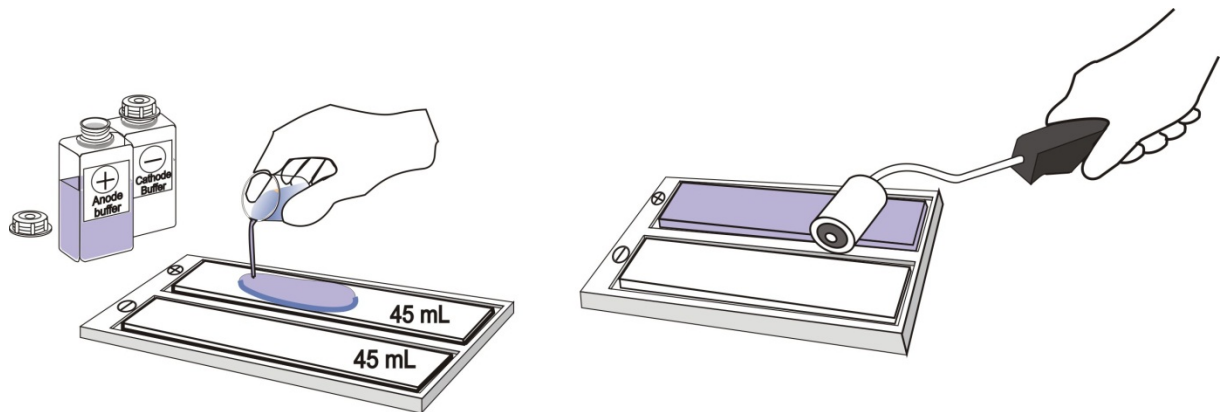

Fig. 2: Soaking the electrode wicks and rolling them for an even distribution of the buffer.
1. Lay two electrode wicks into the compartments of the PaperPool. Apply 45 mL of the respective electrode buffer to each electrode wick. (Fig. 2). Distribute the solution evenly with a roller.